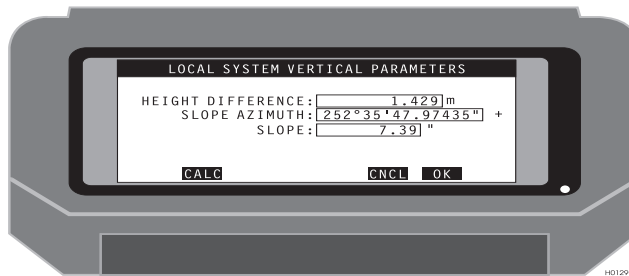

Figure 2.47. Local System Vertical Parameters Screen
12. To display the current definition list for the local vertical calculation, use the Local System Vertical Parameters screen (Figure 2.47).